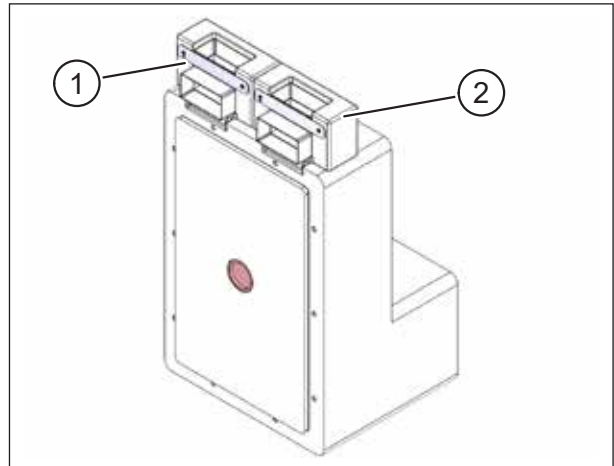

Fig. 11: Installation kit with ductwork connection adapter on the extract air and supply air sides
In combination with the optional ductwork connection adapter M-WRG-II AD-UP this installation kit allows you to connect a 110 x 54 mm flat ductwork system or a 75 or 63 mm flexible pipe system on the extract air side (item 1 in Fig. 11), on the supply air side (item 2 in Fig. 11) or on both sides. The installation example shown in this section is a configuration with a flat ductwork connection on the extract air side. Various sample configurations are illustrated in section 9.2.1 and section 9.2.2.